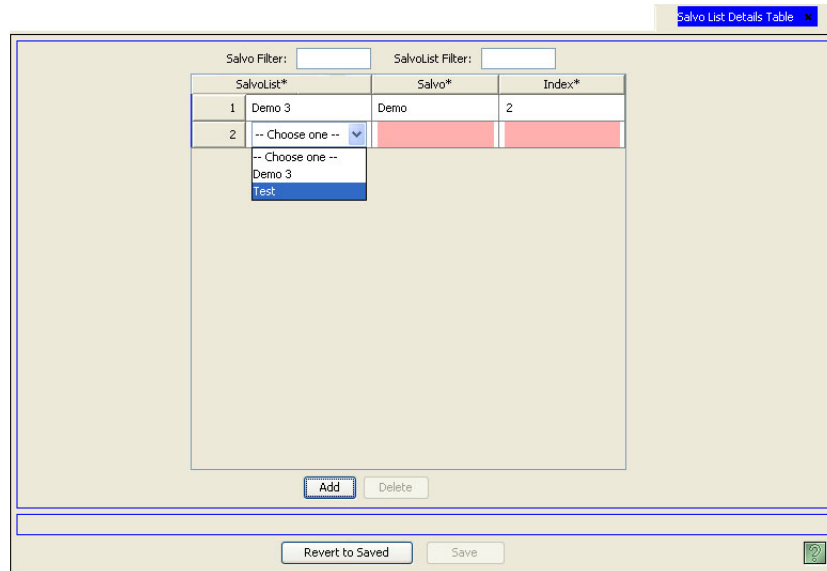

Figure 15-9. Salvo List Details Table
- 2 From the Navigation area, select the ‘Views’ pane and then ‘Salvo List Details’. The ‘Salvo List Details’ table appears, as shown in Figure 15-9.